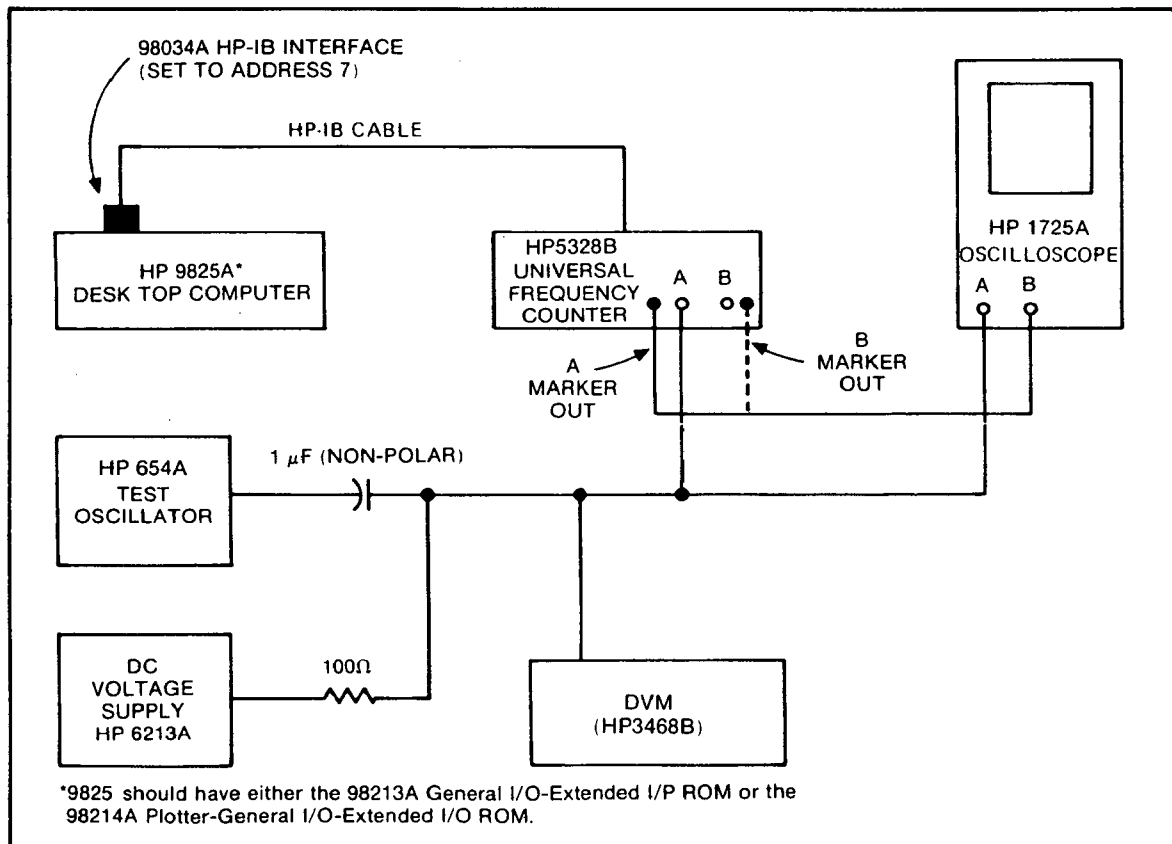
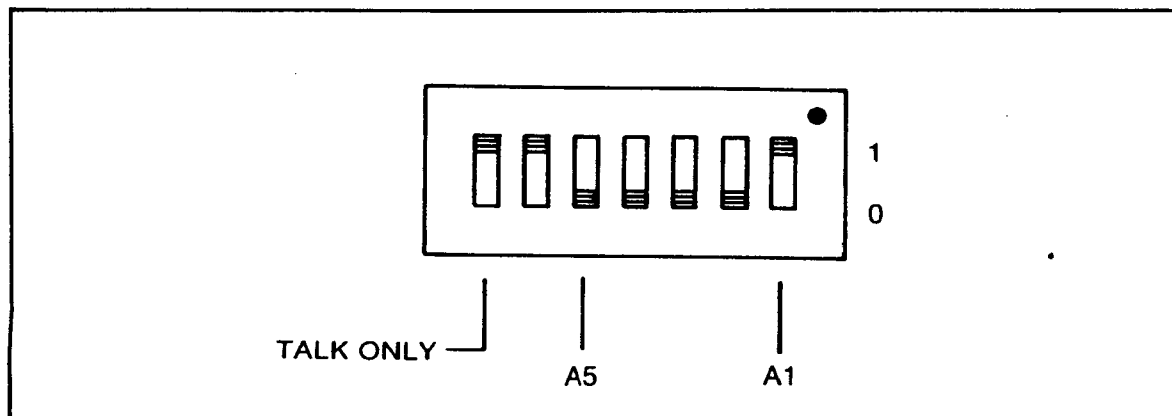

Figure 5-6. Test Setup for DAC Adjustment
Figure 5-7. Address Switches
Set up the equipment as shown in Figure 5-6. Set the rear panel address switches on the HP5328B as shown in Figure 5-7.
- c. Connect the power supply as in *Figure 5-6* and adjust for a dc level of 2.50 volts ( $\pm 2$  mV) as read on the DVM.